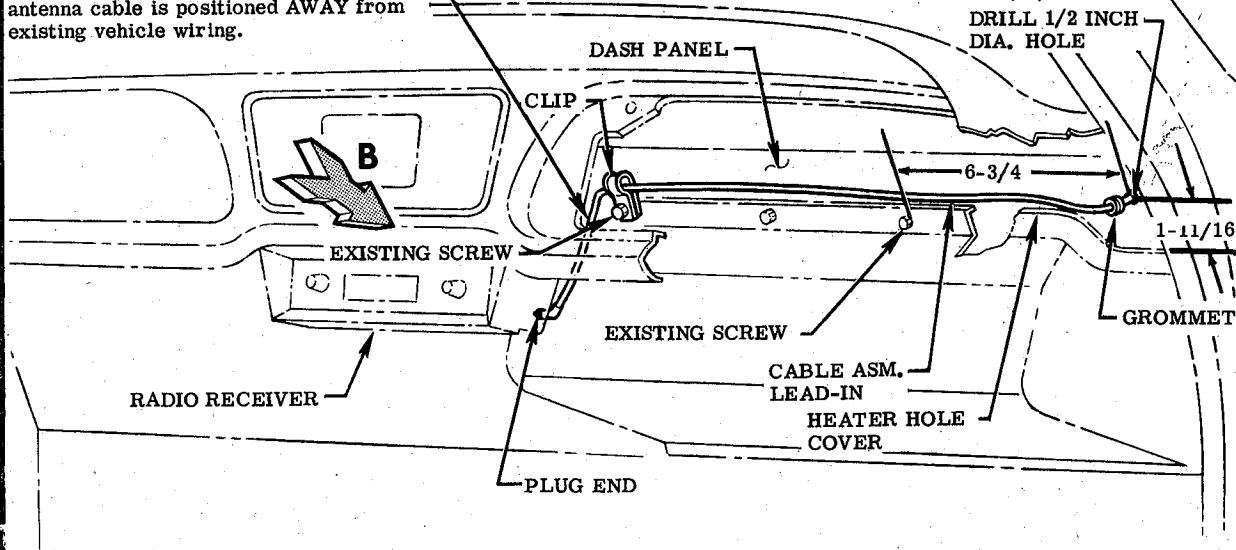

FIG. 3 CABLE ASSY. LEAD-IN
STEP 8 REMOVE INSTRUMENT PANEL COMPARTMENT. LOCATE & DRILL HOLE IN DASH PANEL FROM INNER SIDE THRU INSTRUMENT PANEL COMPARTMENT OPENING. SEE FIG. 3.
STEP 9 ROUTE PLUG END OF CABLE ASM. THRU THE DRILLED HOLE. SEE FIG. 3. **CAUTION** Do not kink or bend cable asm. sharply at any time.
STEP 10 SLIDE GROMMET OVER PLUG END OF CABLE ASM. & SNAP INTO HOLE IN DASH PANEL. SEE FIG. 3.
PLUG INTO REAR OF RADIO RECEIVER. SEE FIG. 3.